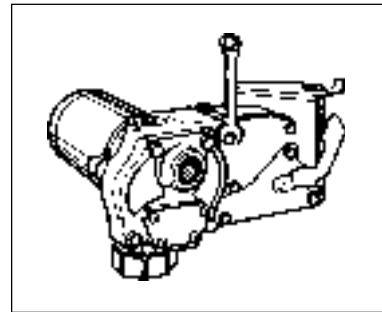

Figure 2
1. Remove the electrical coverplate from the pump housing. (Figure 2)